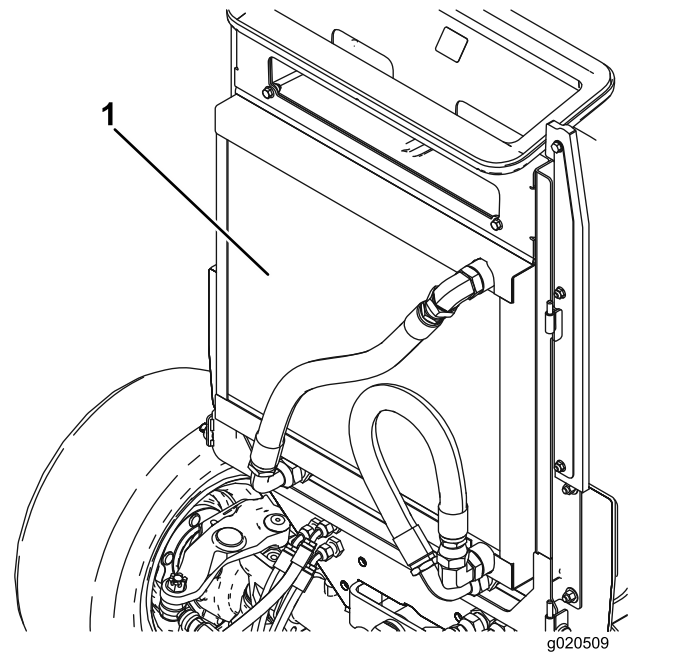

Figure 118
5. Thoroughly clean both sides of the oil cooler and the radiator with compressed air (Figure 118).